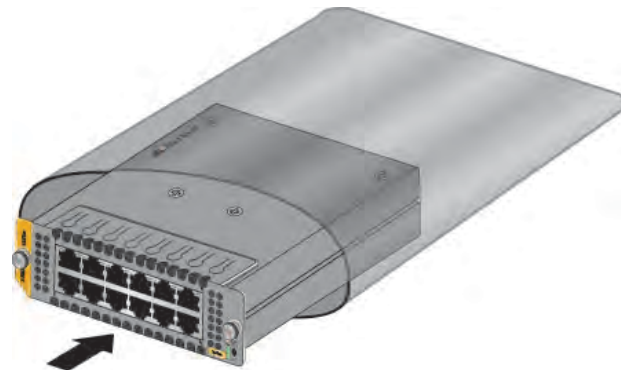

Figure 96. Placing the Ethernet Module in its Anti-static Bag
- If you are not installing the module in another chassis slot, return it to its anti-static bag and shipping container. Refer to Figure 96.